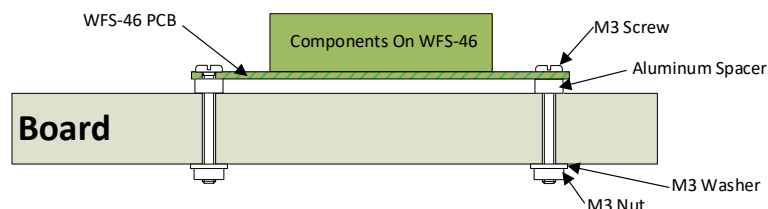

Figure 6 Mounting Suggestion
- (6) Mount the unit using the four M3 metric screws, nuts and spacers provided. Mount the unit on a suitable piece of board, either your baseboard (top or bottom) or a separate board perhaps at the front of your model railroad. The component side of the module should face away from the board as in Figure 6. It is a good idea to mount it somewhere that is easily accessible. If you omit the spacers be sure not to tighten screws so that the unit bends. Take care that no part of the unit touches any metal as this may cause a short circuit and result in permanent damage. Do not mechanically stress or bend the module as this may cause damage. **Take care to ensure that there is adequate ventilation to avoid overheating.**
- (7) **CHECK YOUR WIRING!** Turn on the power. You may test the unit using WFS-46 Web Pages described in the next section. Later you may decide to use the Tower Operator App or a WFD-60 Wi-Fi/DCC Gateway. Refer to the Tower Operator Quick Start, or Full Help Pages for instructions on setting up a schematic control panel on your Windows or Android computer or tablet.